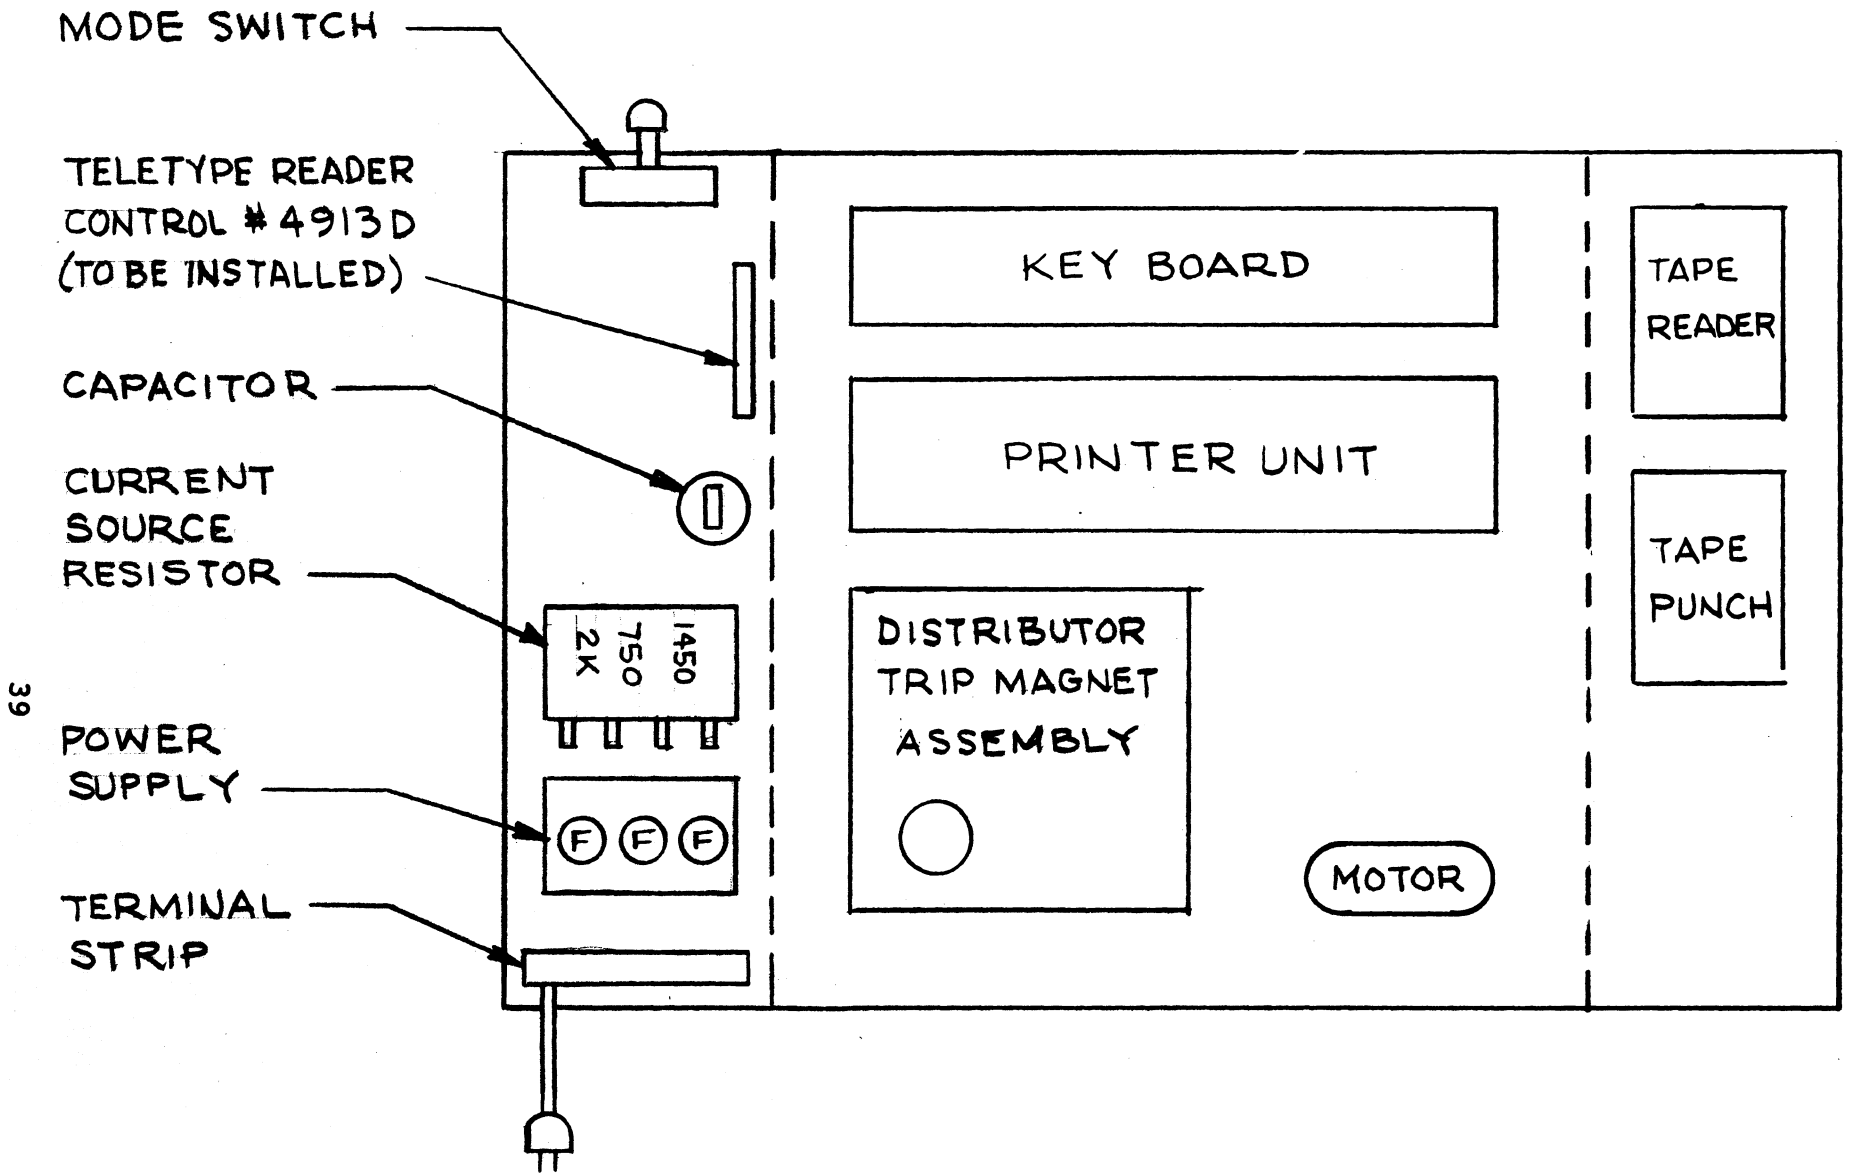
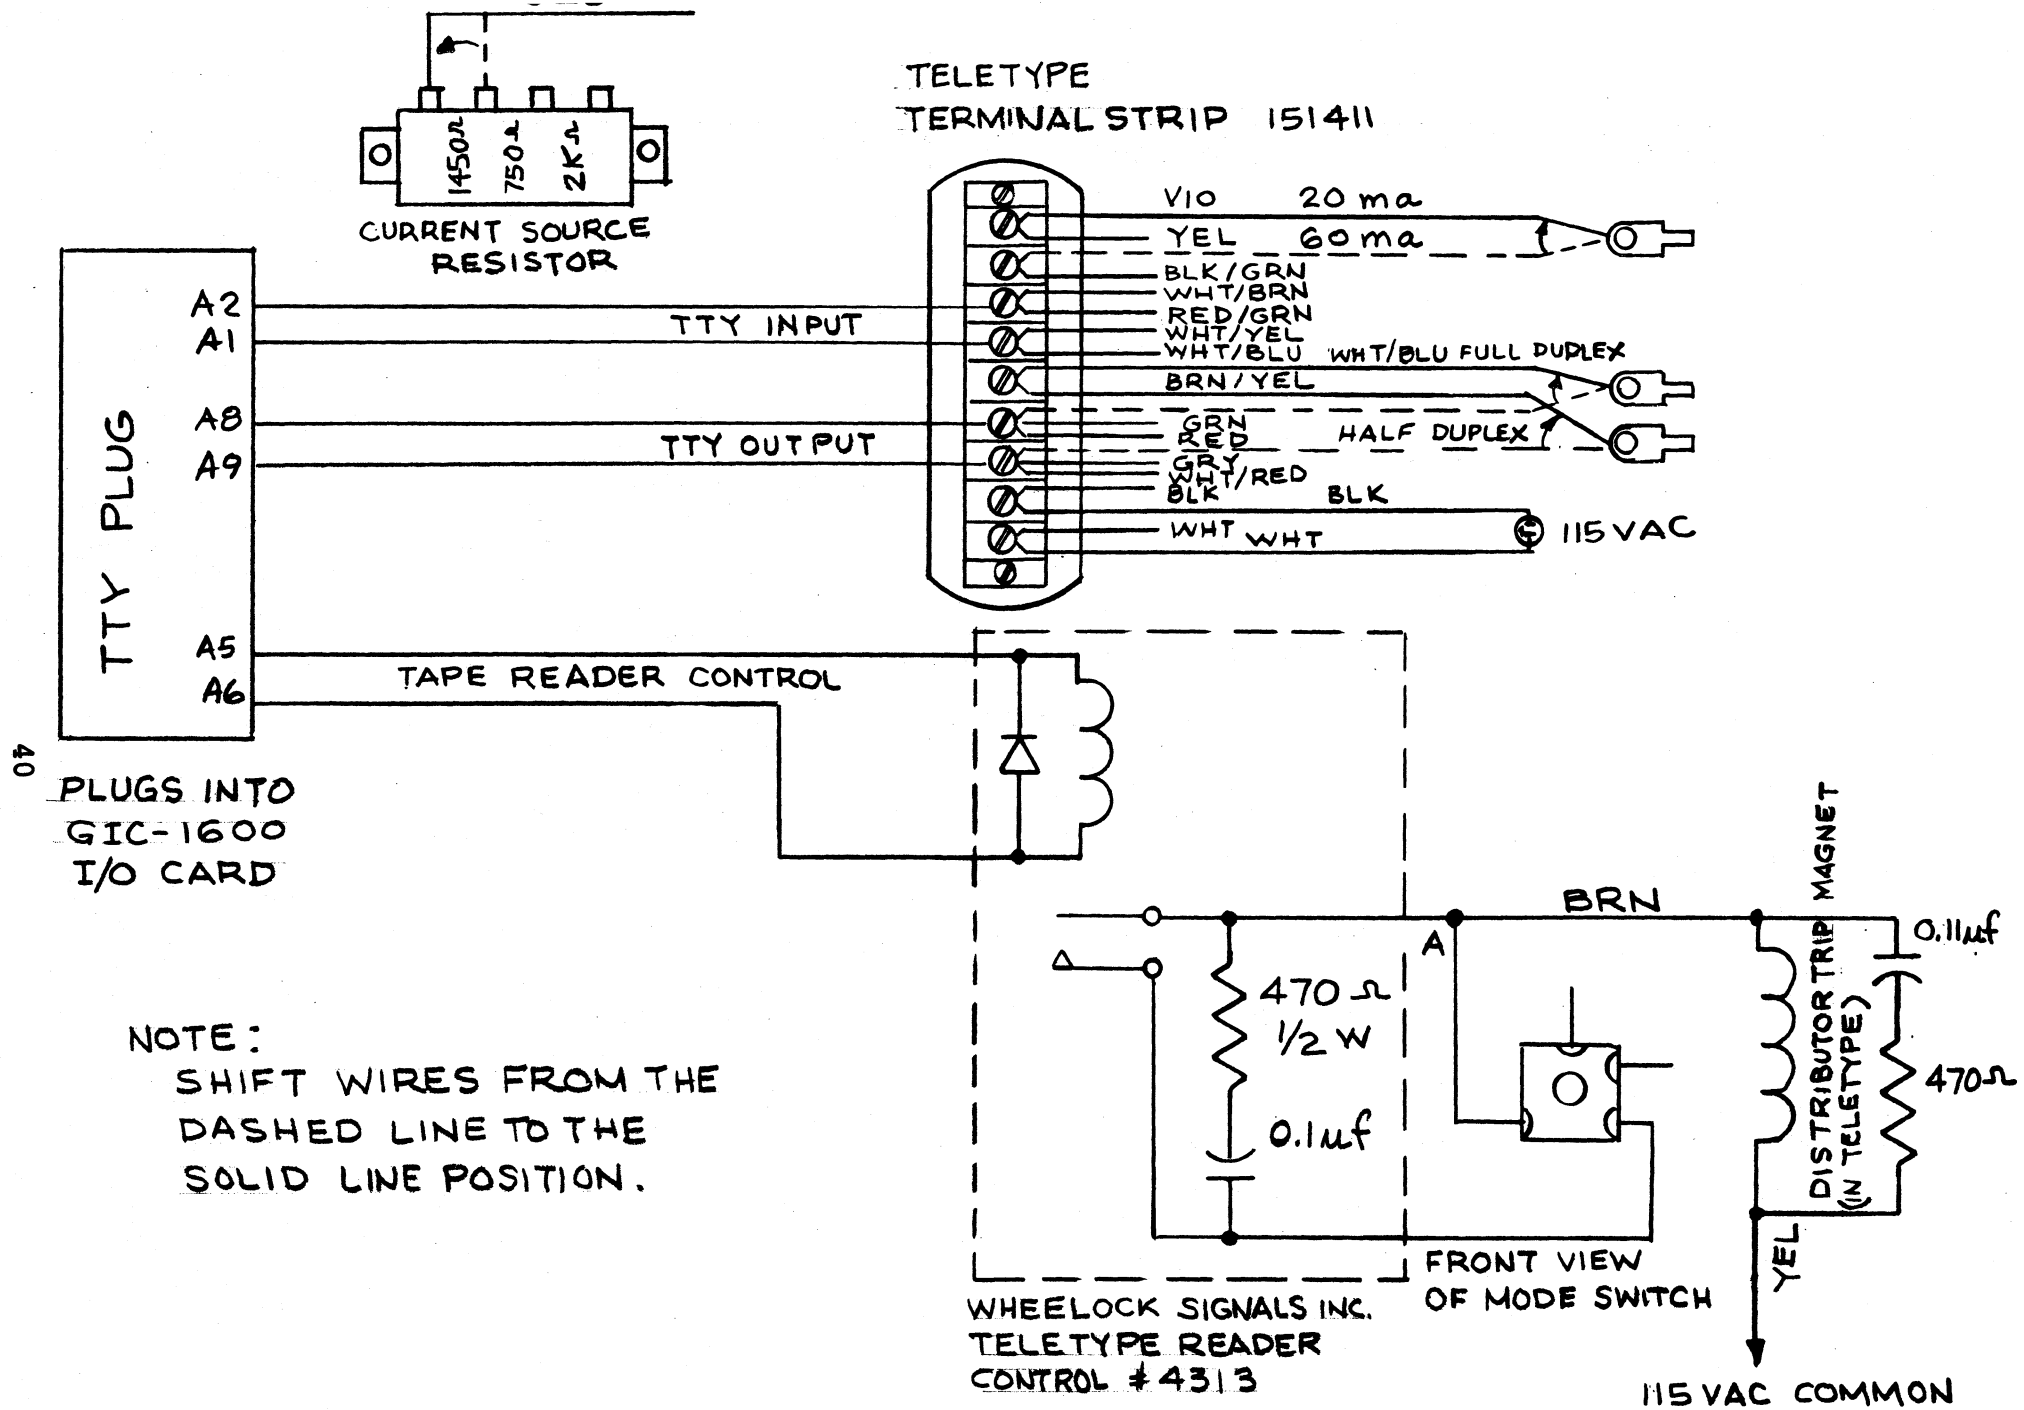

FIG. 17 . TOP VIEW - TELETYPE MODEL ASR 33.
FIG. 18 . INTERFACE OF TELETYPE ASR33 AND GIC-1600 I/O 1600/1601 CARD.
To use the Teletype with the GIC1600 Series Microcomputers, install the TTY cable plug into the smaller connector (10 pins) on the I/O1600/1601 Input/Output Module. The ASR33 Teletype must receive the following internal modifications and external connections (refer to Figures 17 and 18).
4. A relay circuit must be introduced into the paper tape reader drive circuit if the TTY reader is to be used to asynchronously read tapes under program control. The recommended circuit consists of a relay, a resistor, a capacitor, and suitable mounting fixture. This relay network is manufactured by Wheelock Signals, Inc., as part "Teletype Reader Control #4913D". It may be mounted in the Teletype by using two tapped holes in the mounting plate shown in Figure 17. The relay network may then be added without alteration of the existing Teletype circuits. That is, Wire "A", to be connected to the brown wire in Figure 18, may be spliced into the brown wire near its connector plug. The "Line" and "Local" wires must then be connected to the mode switch. Existing reader control circuitry within the teletype need not be altered.